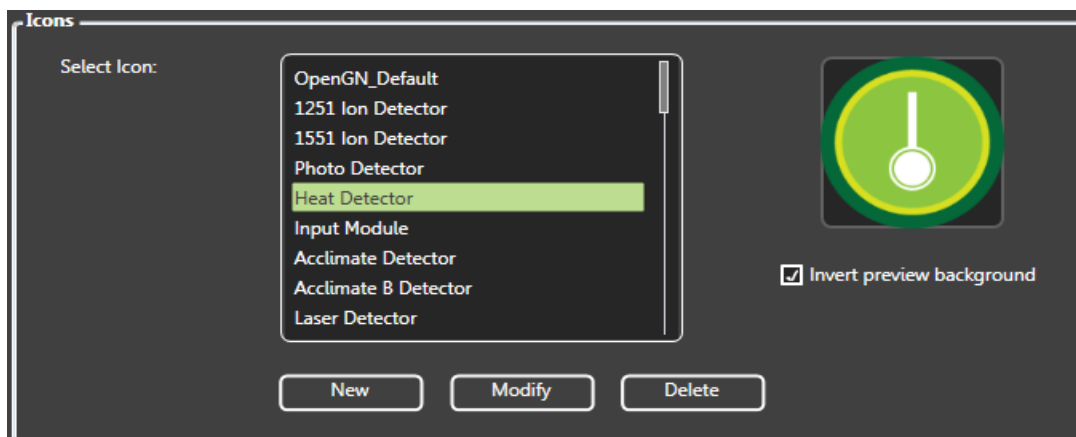

Figure 44 Icon Selection
4. Select an icon from the list of available icons (see Figure 44 on page 62).